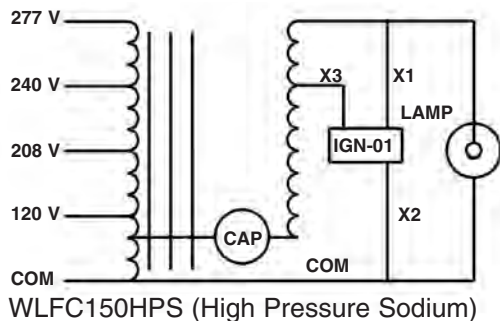
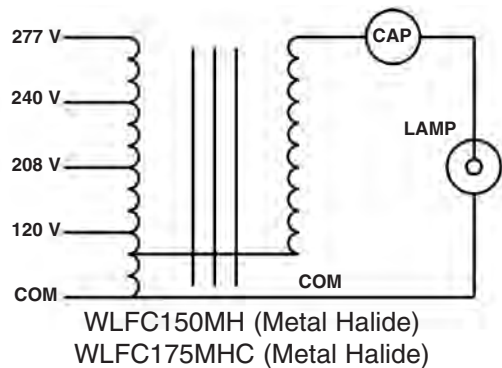

Figure 2
Figure 3
4. Select appropriate fixture wire to match incoming voltage. All fixtures are shipped with 277V wire ready for connection. If supply voltage is lower, cap wire marked 277V with appropriate twist on wire connector and strip fixture wire marked with matching voltage. (See Figure 2 or Figure 3)
9. Install the reflector and secure with (4) screws.
11. Install, close, and secure lens cover with (2) screws making sure that the gasket is properly seated. To weatherproof fixture, seal all holes in housing